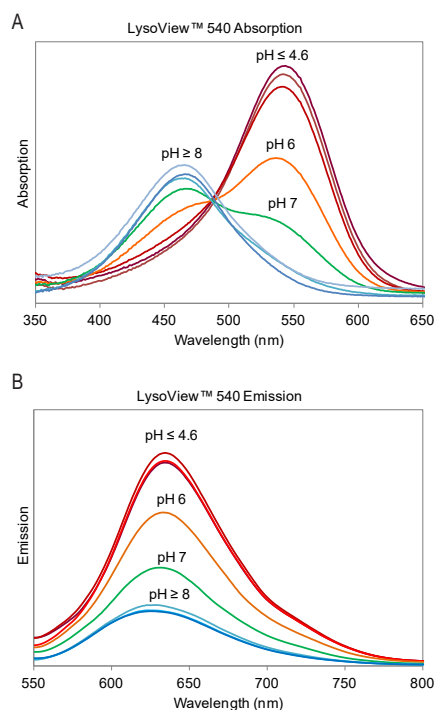

Figure 2. LysoView™ 540 normalized absorption (A) and emission (B) at varying pH.
- LysoView™ 540: Orange dye for the Cy@3 channel with pH-dependent fluorescence (Fig. 2). **Note:** This dye has limited photostability and may not be suitable for all microscopy applications.